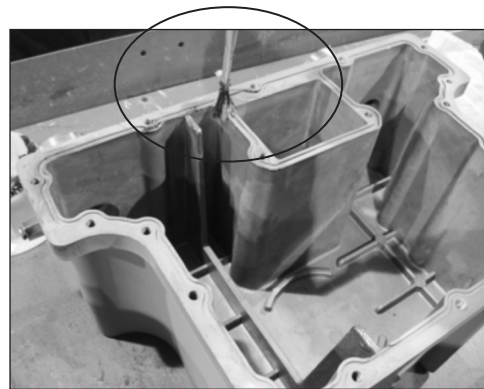

Figure 16.14 Example - Apply grease to rear enclosure
4. Apply grease to the outside rim of the rear enclosure as shown in Figure 16.14 Example.